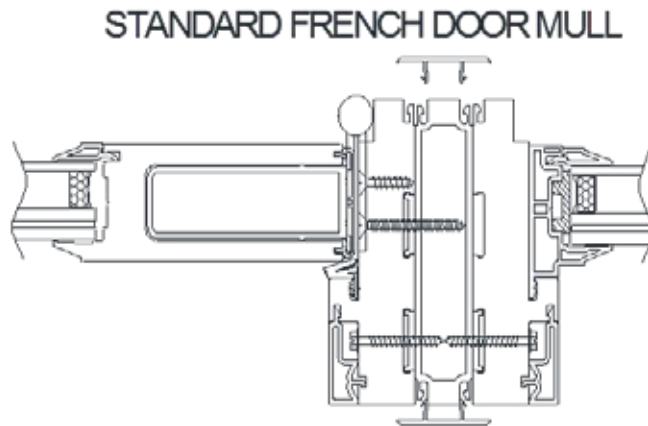

Figure 16
2. **Install** French Door mullion covers (Item 12) on both interior and exterior sides of the mullion (Figure 16).